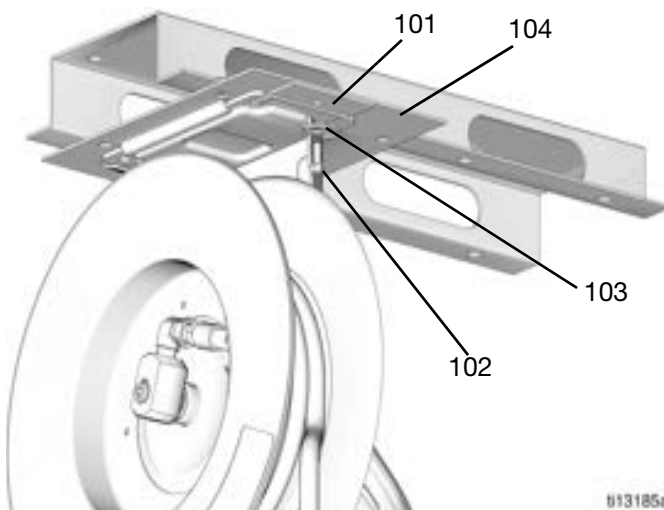
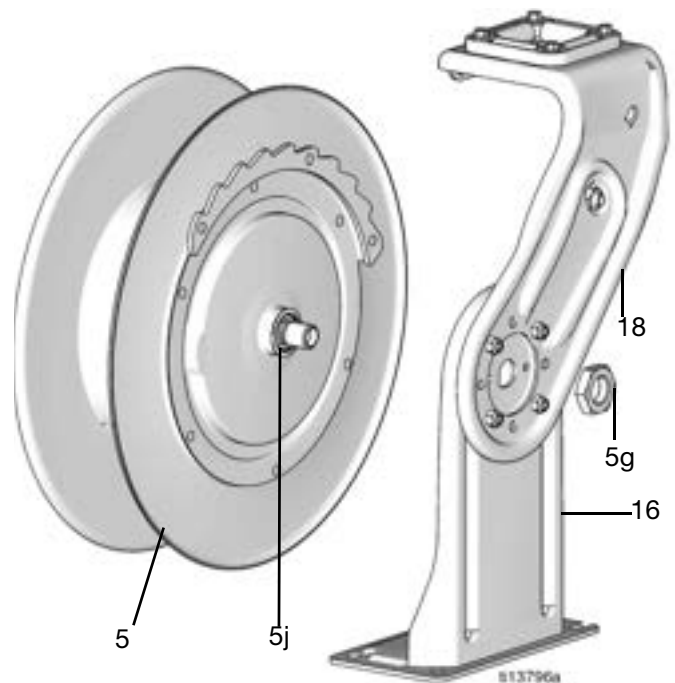

FIG. 18
FIG. 20
NOTE: The reference letters in the following instructions refer to FIG. 18 - FIG. 20.
3. Remove the cap screw (102), washer (103), and the hold-down plate (101).
4. Slide the hose reel out of the base plate (104) (FIG. 18).
7. Remove and discard the nut (5g) (FIG. 20).
8. Completely remove, as one piece, the guide arm (18) and pedestal assembly (16) and set it aside for re-installation on the new spool (FIG. 20).